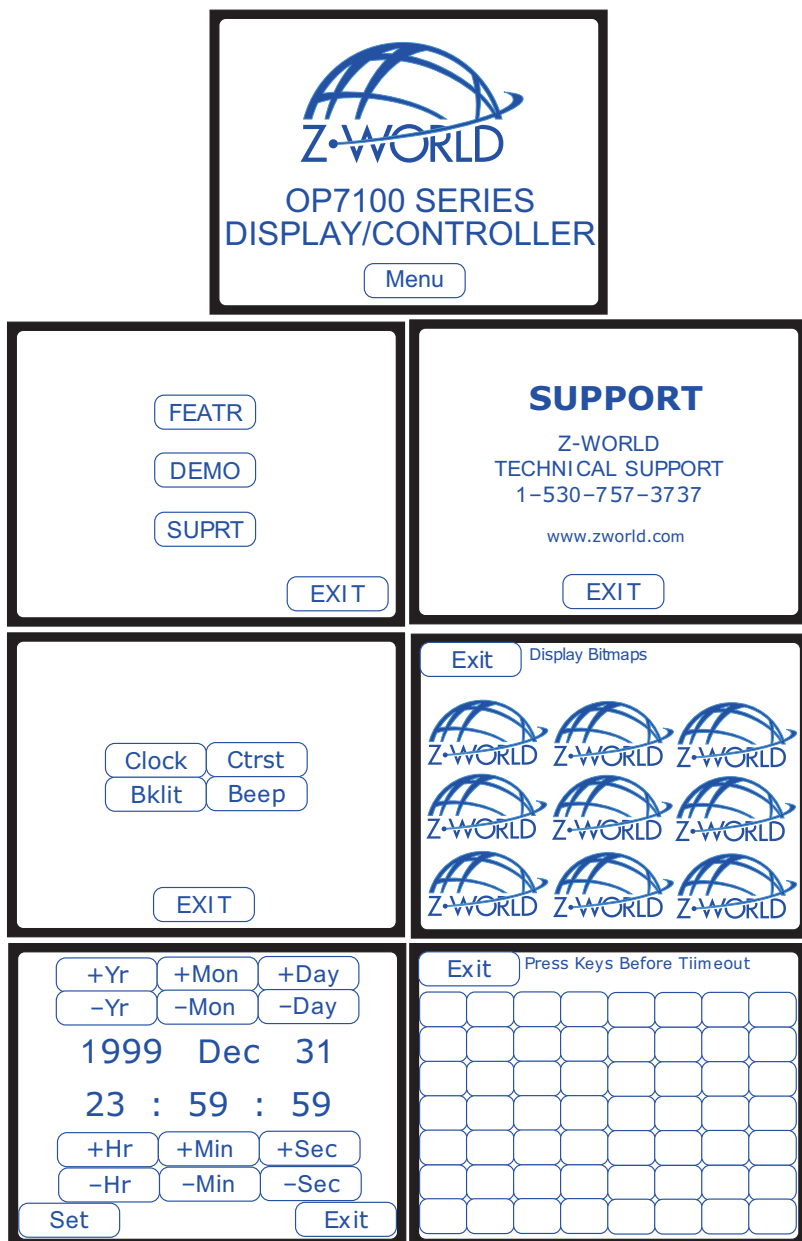

Figure 2-2. OP7100 Demo Screens
4. Plug the power supply into a wall outlet. The display should now light up with the demonstration screens shown in Figure 2-2.